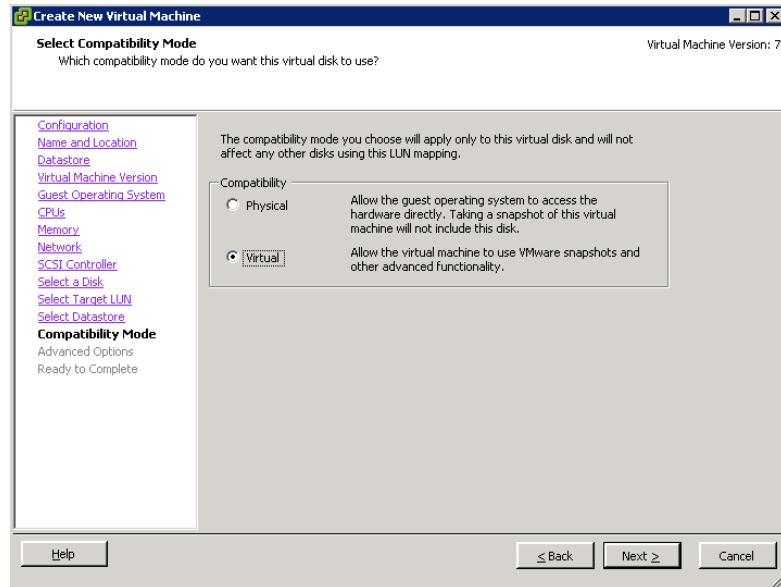

Figure 5-42. Create New Virtual Machine—Compatibility Mode
9. Select the compatibility mode. In this example, click **Virtual**, and then click **Next** (Figure 5-42).